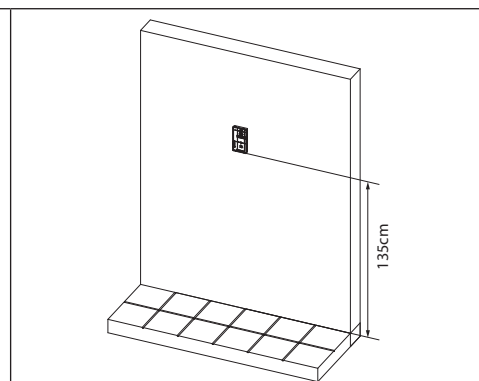
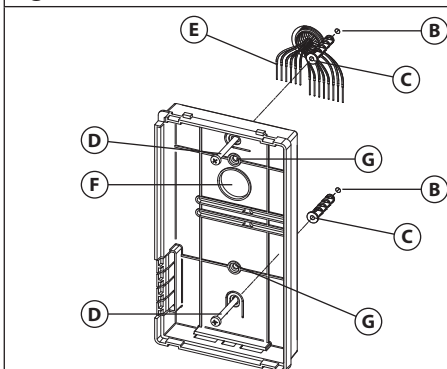

Fig. 3
Fig. 4
- Put the base of the unit on the wall at approx 135cm from the finished floor (Fig. 3) to match the points for the fixing holes (B) (Fig. 4) remembering that the wires (E) (Fig. 4) must be fed through the large hole (F) (Fig. 4). If you use the flush mounting box 503, embed it into the wall vertically at approx. 140cm from the finished floor and the base.
- Following Fig. 4, make the holes (B), insert the wall plugs (C) and fix the base with the screws (D) feeding the wires (E) through the hole (F). If you have used the box 503, fix the base to the wall through the holes (G) using the screws (D).
1. Remove the terminal side covers by unscrewing the retaining screws (**Fig. 3**);
2. Fix the power supply to a DIN rail (**Fig. 4**) or directly to the wall using two expansion type screws (**Fig. 5**);